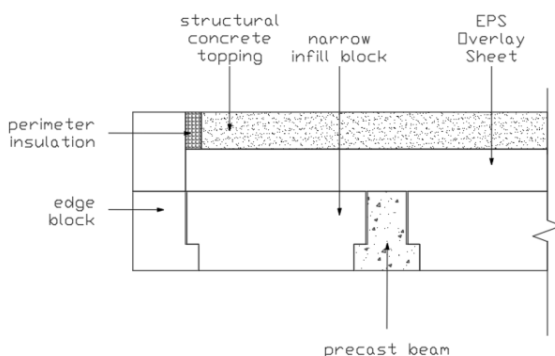

Figure 5 - 75mm perimeter strip
- 75mm high – this is to be installed after the overlay sheet has been laid. From a start point place the strip of insulation against the wall and secure in place. This can be achieved via the use of adhesive tape, nails, or screws into the aerated concrete screed rail. Shown in *Figure 5*.